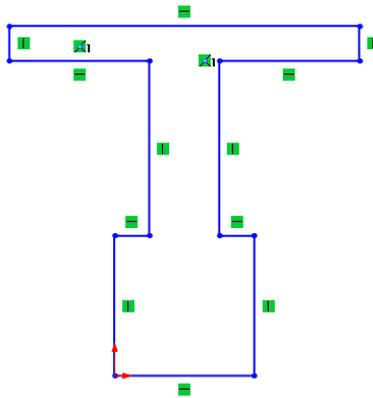

Figure 2-60 Final sketch for Tutorial 1
16. Move the line cursor vertically downward to the start point of the first line. Click when an orange circle is displayed; the final sketch for Tutorial 1 is created, as shown in Figure 2-60. In this figure, the grid display and **Shaded Sketch Contours** settings are turned off for clarity.
In Figure 2-60, the display of relations is turned on. To turn off the display of relations, choose the **View Sketch Relations** button from the **Hide/Show Items** flyout in the **View (Head-Up)** toolbar.